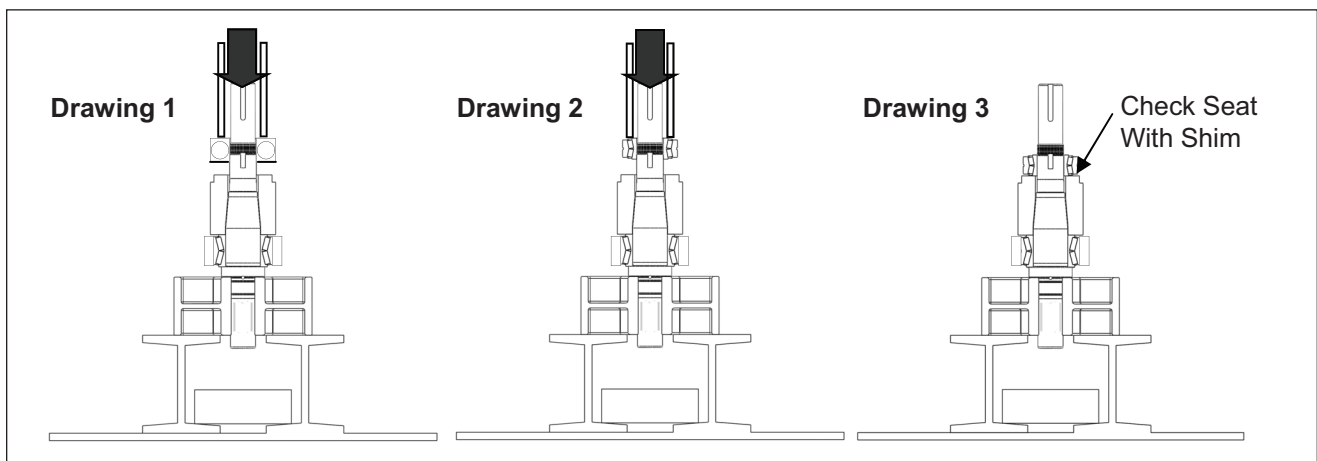

Figure 46. Pressing Rear Bearing onto Shaft
- For pump models with single ball bearings apply a light coat of lubricant on the shaft. Open the new rear bearing assembly and place it over the shaft above the bearing spacer with the shielded side of the bearing facing the spacer (*Figure 46, Drawing 1*). Press the bearing on by pressing only on the inner race.
- For pump models with tapered roller bearings, apply a light coat of lubricant on the shaft. Open the new rear bearing assembly and do not interchange any parts. Place the rear bearing over the shaft above the bearing spacer (*Figure 46, Drawing 2*). Reference Table 5 for the required force (in tons) needed to press the bearing onto the shaft. Using a sleeve that rests on the inner cone of the bearing and rides over the shaft, press the bearing on until it seats against the spacer.
- Make sure the bearing is rested on the bearing spacer using a shim (*Figure 46, Drawing 3*).